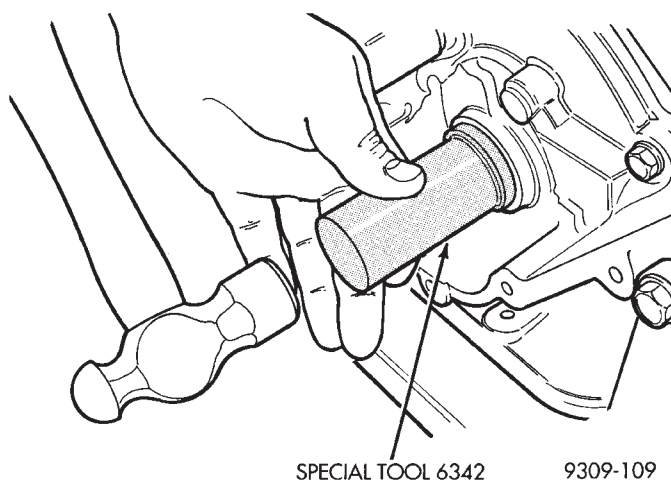

Fig. 81 Crankshaft Oil Seal with Special Tool 6342—Installation
(1) Install crankshaft seal using Special Tool 6342 (Fig. 81).